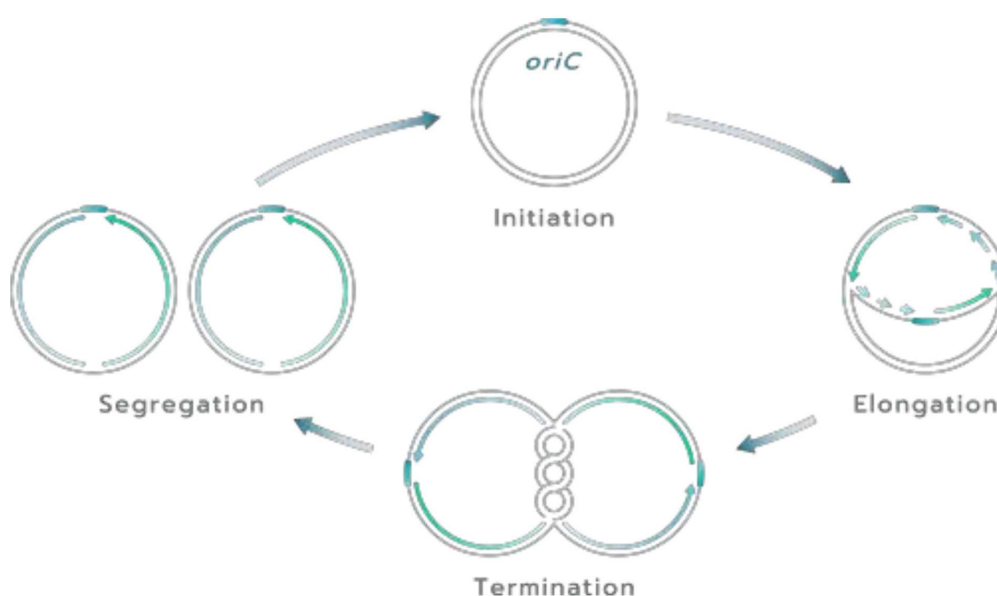

Figure 3. Amplification of circular DNA through chromosome replication cycle
**2. OriCiro Amp Kit:** The reaction consists of 26 purified enzymes involved in chromosome replication of *E. coli*. The chromosome replication cycle repeats autonomously at around 30°C, enabling exponential amplification of circular DNA having *oriC* with extremely high fidelity (10-8 error/base/cycle) (Figure 3). The kit yields up to 1 µg circular DNA per 10 µL reaction at 33°C for 6 hr. The maximum amplification size is 50 kb in the current version of the kit.